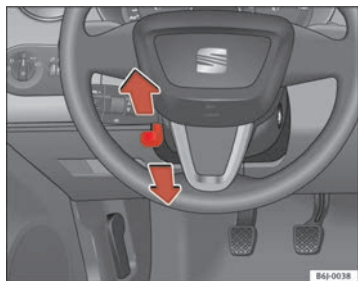

Fig. 94 Steering column height adjustment
- Push the lever under the steering column ⇒ fig. 94 down ⇒ ⚠.
- Adjust the steering wheel until the correct position is set ⇒ fig. 94.
- Adjust the driver seat or steering wheel so that there is a distance of at least 25 cm between the steering wheel and your chest ⇒ fig. 94. If you fail to observe the minimum distance, the airbag will not protect you. Risk of fatal injury.